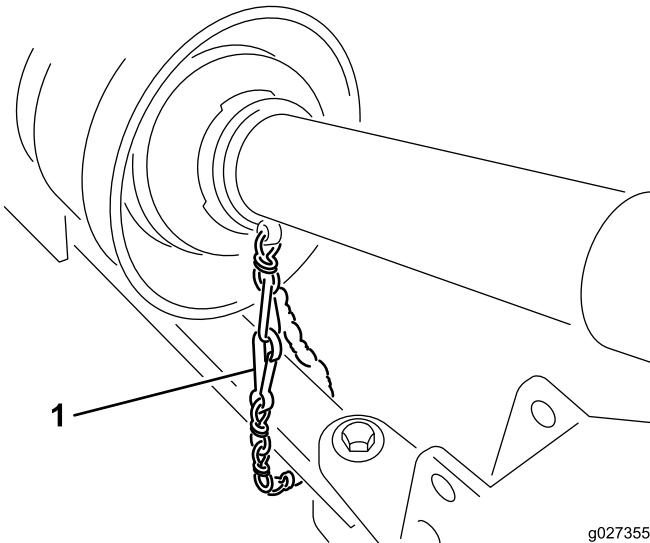

Figure 8
5. Connect the shield safety chain to the tractor (Figure 8).